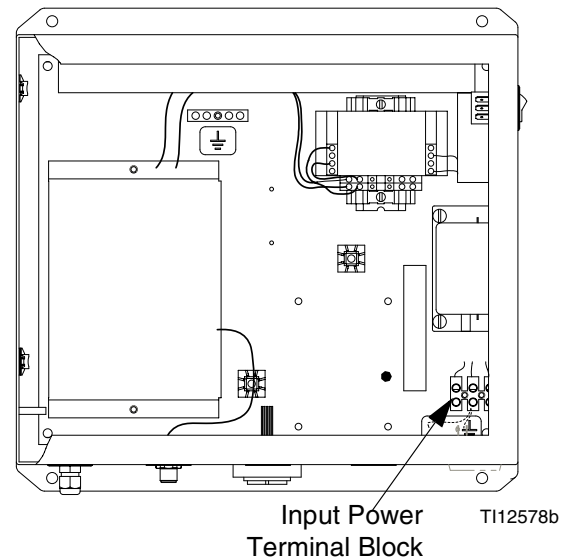

FIG. 12. Main Power Connection
- See FIG. 12 and the **System Electrical Schematic** on page 30 for the L1, N, and ground wiring connections inside the EasyKey.